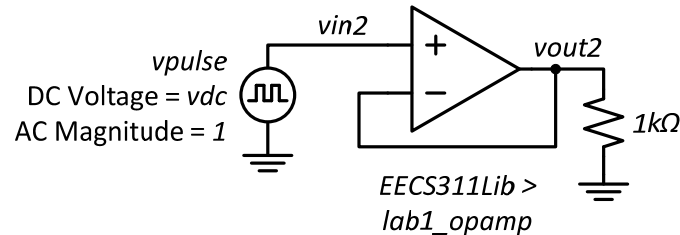

**Figure 1. Cadence schematic for exercises P2.1-3.**
- P2.1** Review the online Cadence tutorial at the following site and refer to this tutorial for guidance in completing any of the following problems. In Cadence, create a library called *lab2*. Within your *lab2* library, create a new schematic cell view called *prelab* and build the schematic shown in Figure 1. Make sure you *Check and Save* your schematic.
- P2.2** Launch Analog Environment and perform a DC sweep of the variable  $vdc$  (DC input voltage in Figure 1) from  $-5mV$  to  $+5mV$  in 10k steps. Plot the output voltage as a function of the swept input voltage. Determine the DC offset voltage and the DC open-loop gain of the amplifier  $A_0$  from the simulated response.